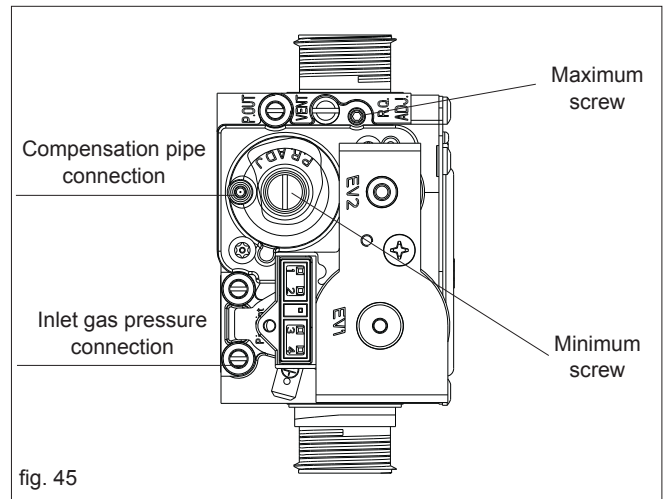

fig. 45
- using a 2.5mm Allen key, very slowly turn the maximum adjustment screw (see fig. 45) – clockwise to decrease, counter clockwise to increase – until the correct value is displayed on the CO₂ analyser (allow time for the analyser to stabilise).
- locate the minimum adjustment screw (fig. 45), using a suitable screwdriver remove the protection plug
- using a 4mm Allen key, very slowly turn the minimum adjustment screw (see fig. 45) - clockwise to increase, counter clockwise to decrease - until the correct value is displayed on the CO₂ analyser (allow time for the analyser to stabilise).